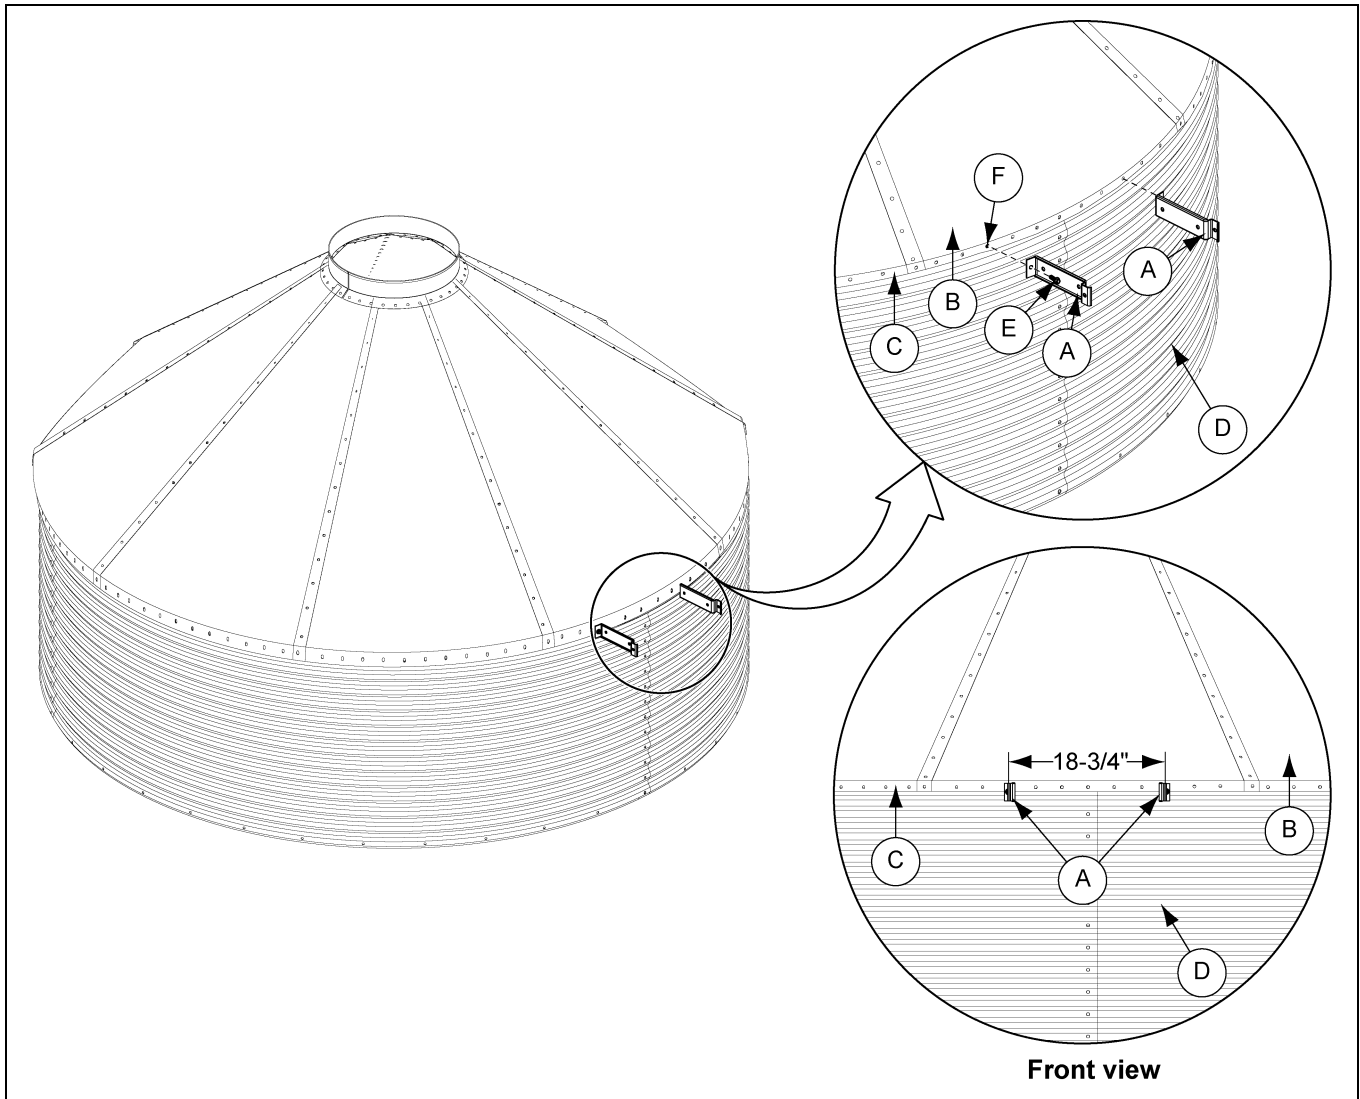

Figure 8F
1. The standoff brackets (A) at the eave must be centered in the roof panel (B) to ensure proper installation of the roof ladder support brackets.
2. Install the standoff brackets (A) to the holes in the top horizontal seam (C) using 5/16" and 1" bin bolts. (See Figure 8F.)
**NOTE:** There should be a minimum of 18-3/4" between the standoff brackets (A).